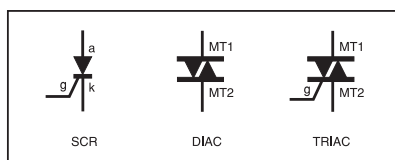

Fig.1. Circuit symbols for an SCR, Diac and Triac.
**W**E have received a request from reader **Alan Brown** for an explanation of the operation of triacs. Triacs are a member of a family of devices that also includes diacs, silicon controlled rectifiers (SCRs), and various more exotic components such as MOS thyristors. The circuit diagram symbols for an SCR, Diac and Triac are shown in Fig.1.